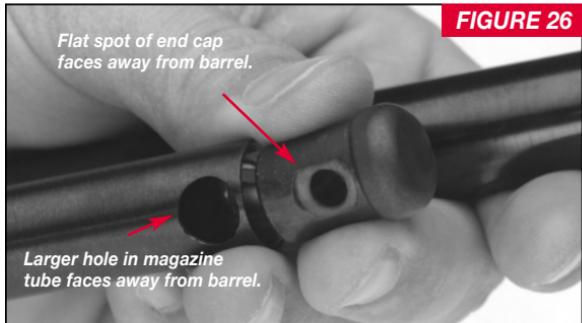

FIGURE 26
(Figure 26.)
5. Replace magazine end cap, pushing the spring back down into the magazine tube. *Be sure to install the end cap with the flat spot around the sling post mounting stud hole facing away from the barrel.* (Figure 26.)
7. Before tilting the magazine back in place on the sling post mounting stud, note the two different sized holes in the end of the magazine tube. *The larger hole must face away from the barrel.* (Figure 26.)